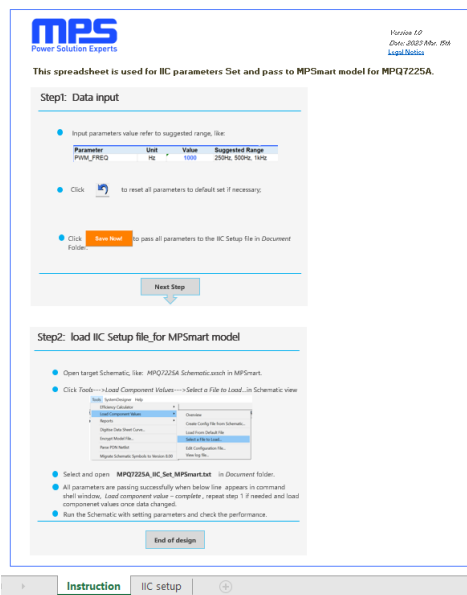

Figure 25: Introduction Sheet of the IIC Spreadsheet
2. Open the IIC spreadsheet. The introduction page gives a brief step-by-step guide on how to use the spreadsheet to achieve the target (see Figure 25).